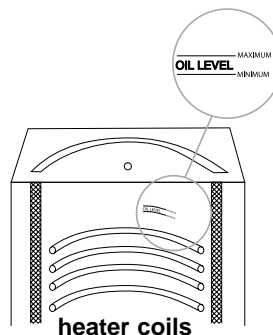

FIGURE 13
2. **Check Oil Level** to see that it is between the Maximum and Minimum lines in the cookpot (See Figure 13).